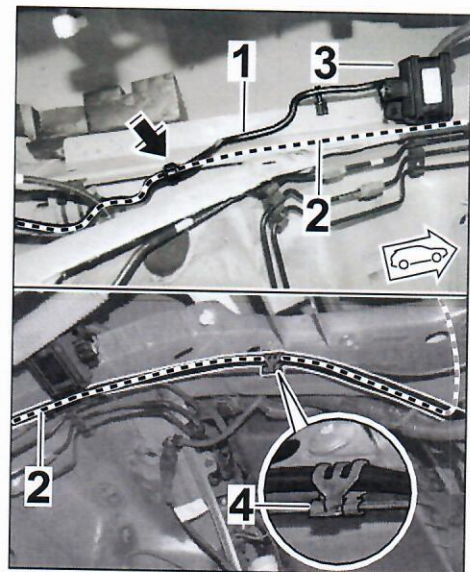

Figure 24
- 4.1.3 Route short line end to front right headlight. Secure short line end ⇒ *Figure 24 -2-* to wheel housing control line ⇒ *Figure 24 -1-* using tie-wraps ⇒ *Figure 24 -arrow-*.
Route short line end behind Tyre Pressure Monitoring (TPM) transmitter holder ⇒ *Figure 24 -3-*.
Secure short line end to side member using clip ⇒ *Figure 24 -4-*.